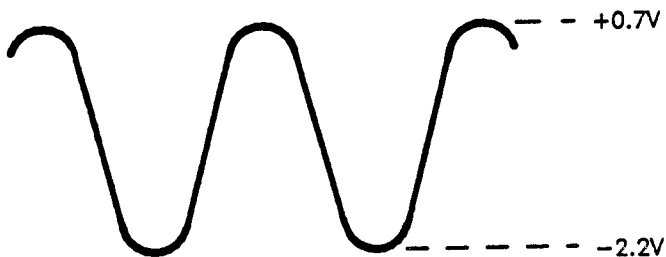

Figure A23-2. A23TP2 Waveform During Overmodulation
4. Set the function generator output signal level to 3.2V P-P. This modulation level is not within design limits, and LOMD should go low, indicating overmodulation. Verify the waveform shown in Figure A23-2. If the signal is correct, and LOMD has not gone low, troubleshoot block F.